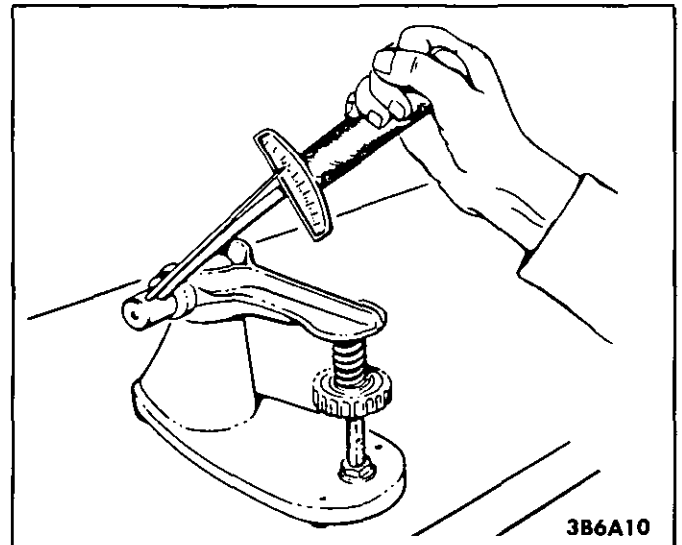

Figure 9 Checking Valve Spring Load
- Spring load (Figure 9). If below specification, replace.